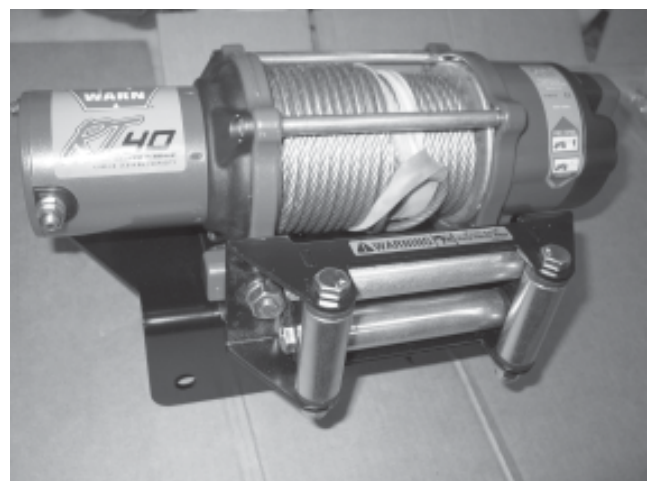

Figure 6
6. Assemble fairlead to fairlead mounting plate and then attach winch to the vehicle mounting plate, as shown in Figure 6, using hardware supplied with winch kit and torque to 17 lb. ft. (12.5N-m).